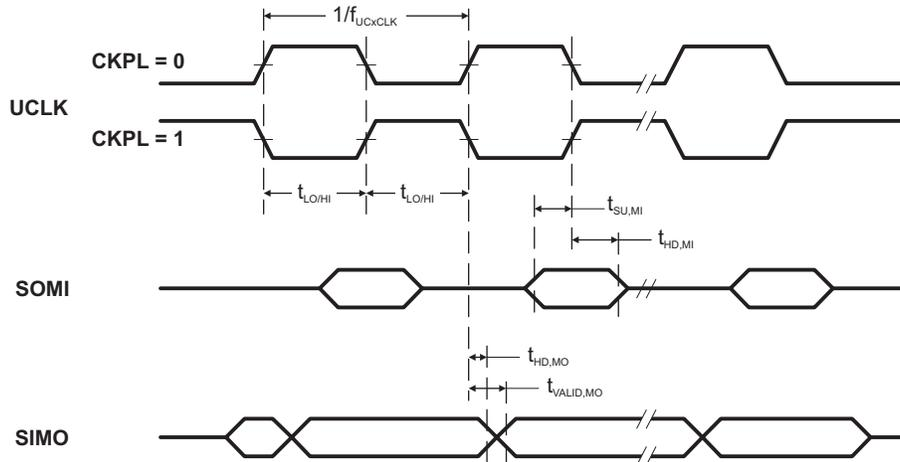
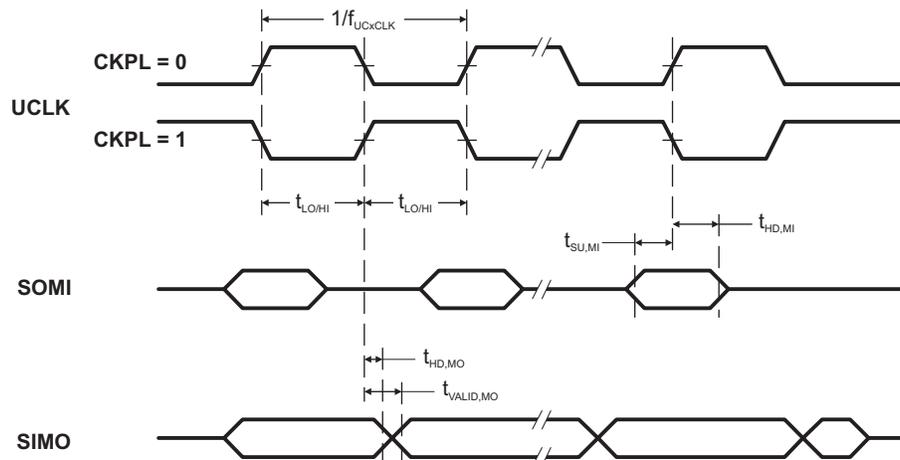

Figure 11. SPI Master Mode, CKPH = 0
Figure 12. SPI Master Mode, CKPH = 1
(see Note (1), Figure 11 and Figure 12)
- (2) Specifies the time to drive the next valid data to the SIMO output after the output changing UCLK clock edge. Refer to the timing diagrams in Figure 11 and Figure 12.
- (3) Specifies how long data on the SIMO output is valid after the output changing UCLK clock edge. Negative values indicate that the data on the SIMO output can become invalid before the output changing clock edge observed on UCLK. Refer to the timing diagrams in Figure 11 and Figure 12.
- (2) Specifies the time to drive the next valid data to the SOMI output after the output changing UCLK clock edge. Refer to the timing diagrams in Figure 11 and Figure 12.
- (3) Specifies how long data on the SOMI output is valid after the output changing UCLK clock edge. Refer to the timing diagrams in Figure 11 and Figure 12.